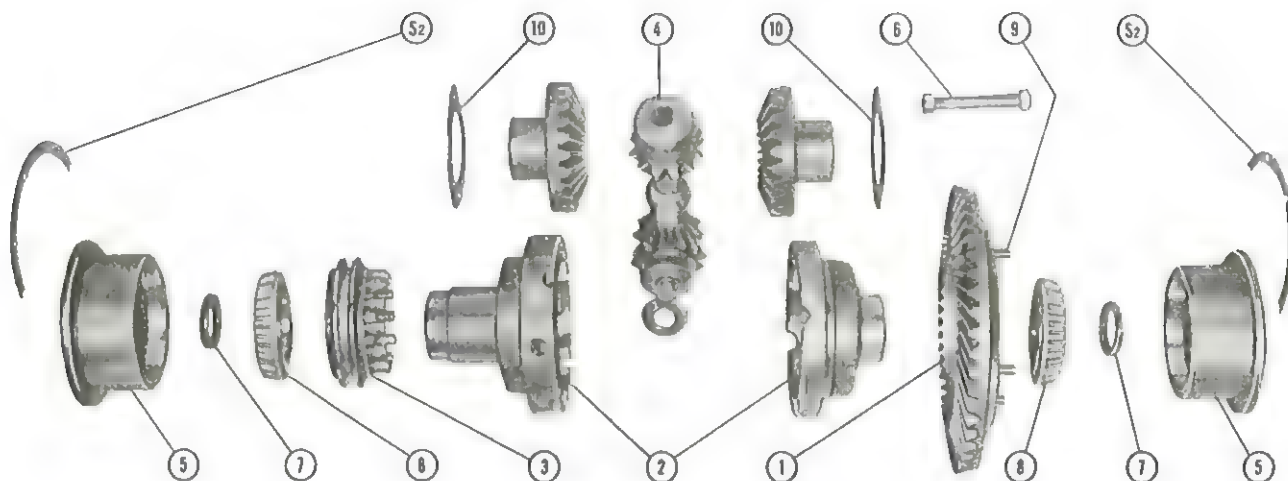

Fig. 83. - Rear transmission.
Withdraw the screws fastening the bearing carriers to the transmission housing (1, Fig. 82); pull out the carriers with their adjusting shims; lift out the complete bevel ring gear and differential assembly (Fig. 42) from the transmission housing; the parts making up the bevel ring gear, differential box and locking device assembly come loose after fastening bolts (6, Fig. 83) have been removed; draw out slotted hollow dowels (9) and bearings (8, Fig. 83), then detach the bevel ring gear from the differential housing.